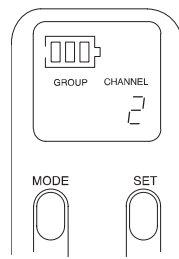

FIGURE 27
- Press the SET button to advance to the desired Channel number, as shown in Figure 27.